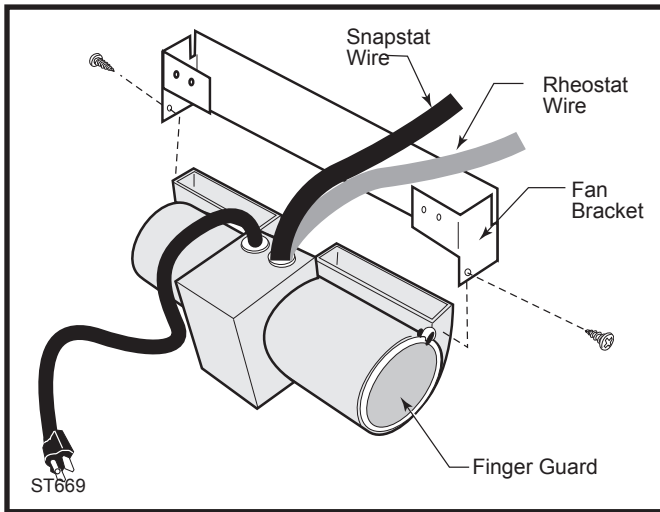

Fig. 9 Attach the fan assembly to the fan bracket.
4. Attach the fan assembly to the fan bracket provided in the log box. Use #10 sheet metal screws provided with fan kit. Do not remove finger guard screws. (Fig. 9)